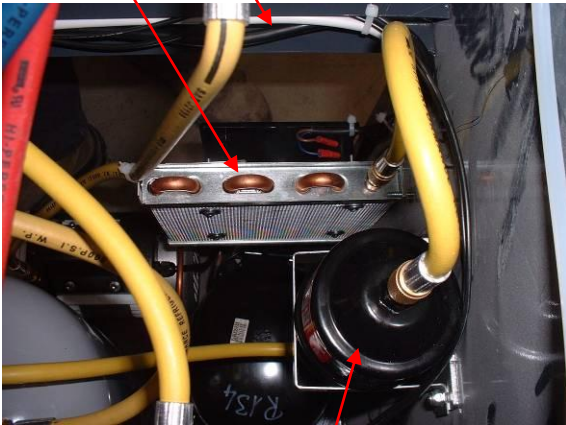

Fig. 3
- To work on the front part, remove the plastic carter (fig. 3)